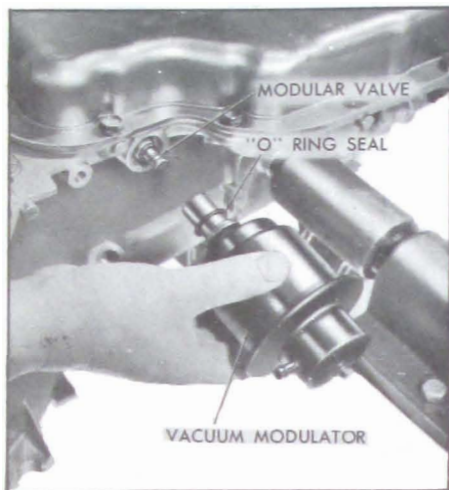

Figure 5-747
1. Install the modulator valve into the case, stem end out. See Figure 5-747.